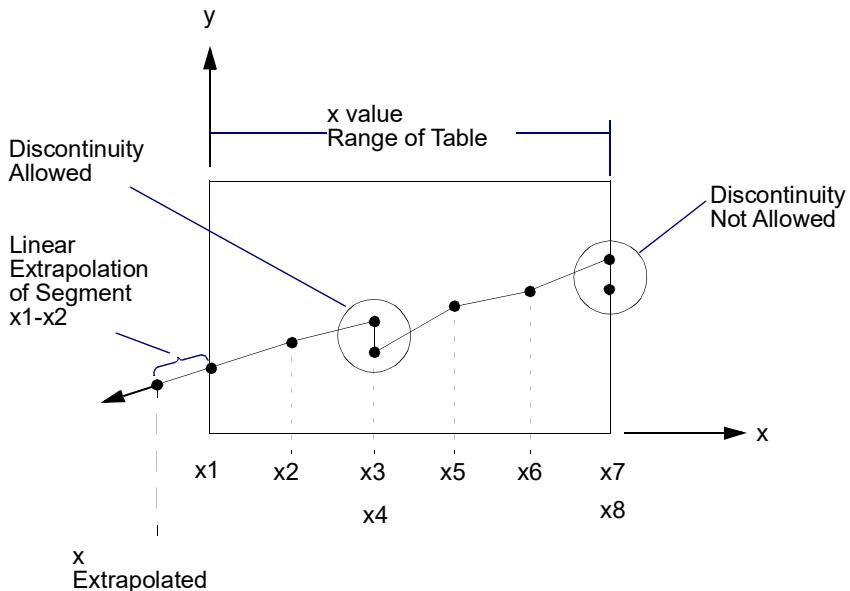

Figure 9-165 Example of Table Extrapolation and Discontinuity
2. Discontinuities may be specified between any two points except the two starting points or two end points. For example, in Figure 9-165 discontinuities are allowed only between points x2 through x7. Also, if y is evaluated at a discontinuity, then the average value of y is used. In Figure 9-165, the value of y at x = x3 is $y = (y3 + y4)/2$.
where x is input to the table, y is returned and z is supplied from the MATi entry. The table look-up is performed using linear interpolation within the table and linear extrapolation outside the table using the two starting or end points. See Figure 9-165. No warning messages are issued if table data is input incorrectly.